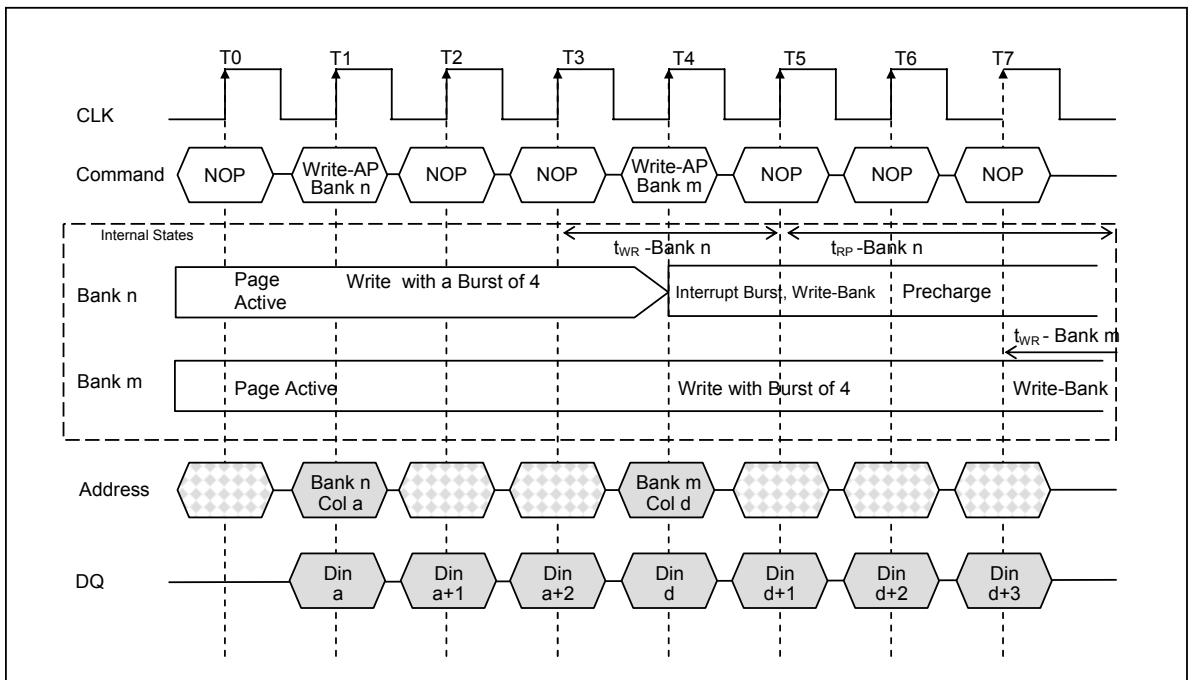

Figure 28. Write with Auto Precharge Interrupted by a Write with Auto Precharge
4. Interrupted by a Write (with or without auto Precharge): A Write to bank m will interrupt a Write on bank n when registered. The Precharge to bank n will begin after t_{WR} is met, where t_{WR} begins when the Write to bank m is registered. The latest valid data Write to bank n will be data registered one clock prior to a Write to bank m. (Figure 28.)